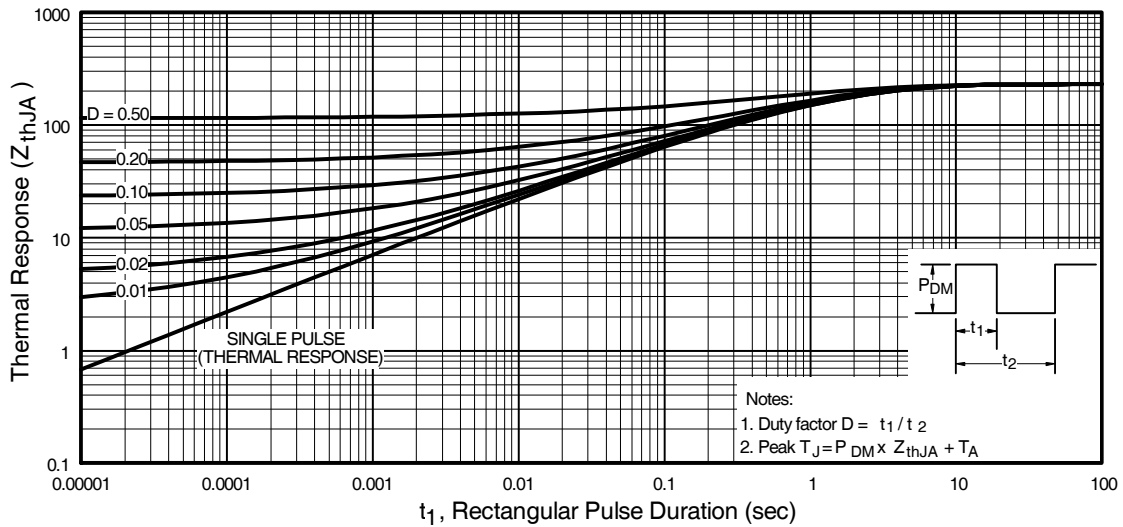

Fig 11. Maximum Effective Transient Thermal Impedance, Junction-to-Ambient
- ① Repetitive rating; pulse width limited by max. junction temperature. (See fig. 11)
- ② $I_{SD} \leq 0.93A, di/dt \leq 90A/\mu s, V_{DD} \leq V_{(BR)DSS}, T_J \leq 150^\circ\text{C}$
- ③ Pulse width $\leq 300\mu s$; duty cycle $\leq 2\%$.
- ④ Surface mounted on FR-4 board, $t \leq 5sec.$